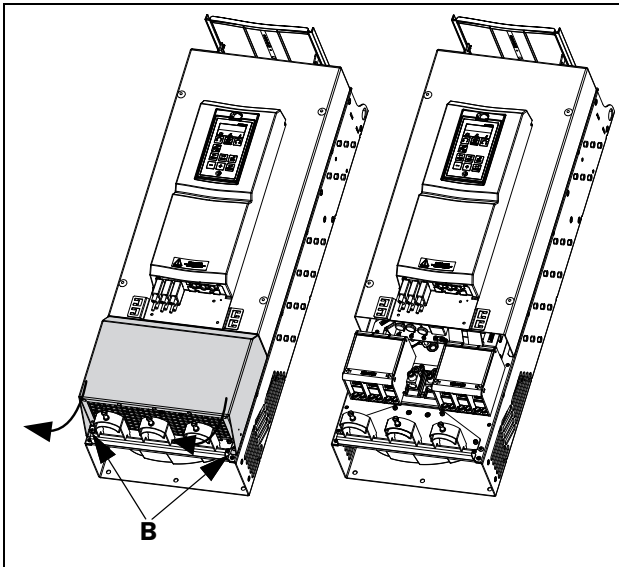

Fig. 36 Loosen the two screws and remove the lower cover (principle drawing).
- Loosen the two screws B (see Fig. 36).